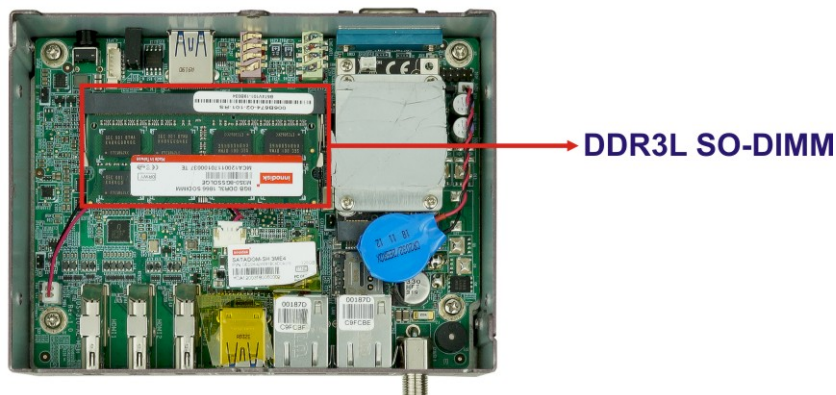

Figure 5-1: SO-DIMM Location
Step 2: Locate the SO-DIMM inside the bottom panel (**Figure 5-1**).